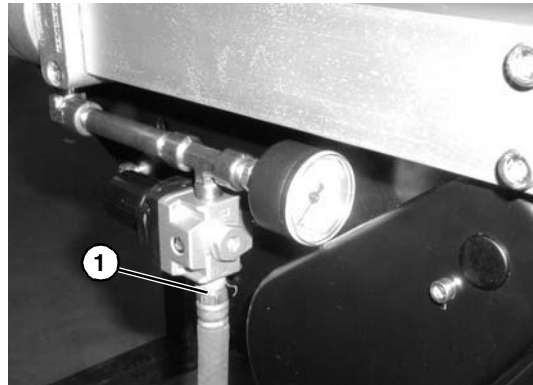

Figure 45
1. Remove air supply and remove hose (Figure 45, item 1) from center drive.